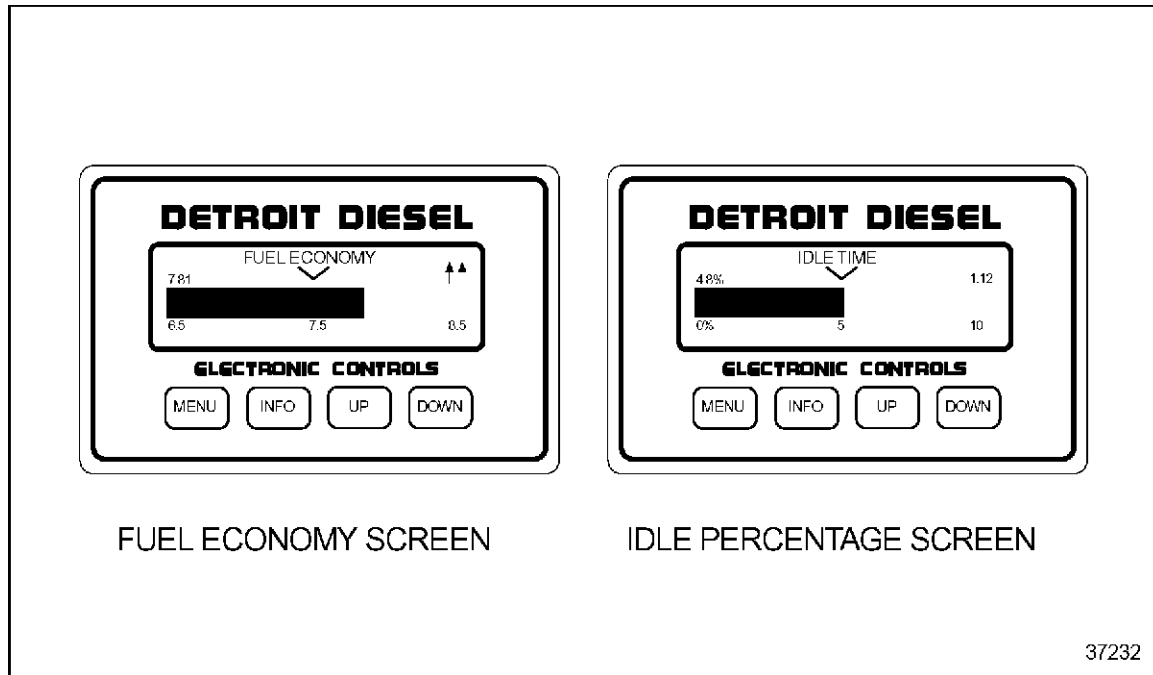

Figure 5-77 ProDriver Screens
ProDriver is a dashboard-mounted graphic device that displays data stored in its memory. The display is a vacuum fluorescent (VF) display for wide viewing angles and excellent visibility in all ambient light conditions. It provides automated intensity control of the VF display, based on the dashboard instrument panel lights for improved driver convenience. There are two automatically shown display screens which offer real-time feedback based on vehicle activity, the "Fuel Economy" screen and the "Idle Percentage" screen (see Figure 5-77).